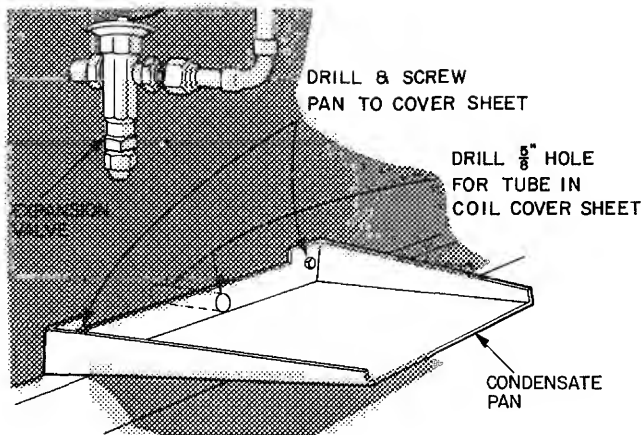

Fig. 17 – Expansion Valve Condensate Pan
3. Install condensate pan(s) under expansion valve(s) per Fig. 17.